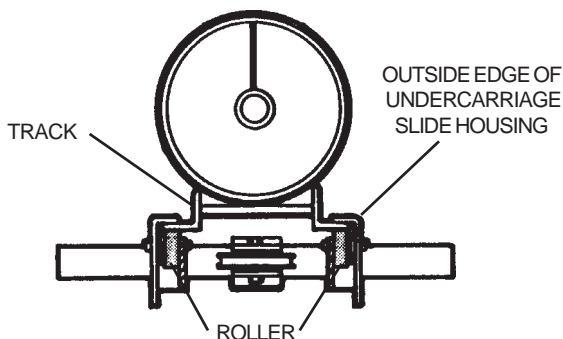

FIG. 33B
Step 5. Before the upper cable anchor/stop can be attached, the undercarriage slide must be installed on the track. See Figure 33B. To accomplish this, lift the auger assembly a few feet by lifting at a point near the center of the auger with a chain hoist or other safe, suitable means. **DO NOT** lift the entire weight of the auger from the extreme end. **DO NOT** use drive shaft to lift auger. Use a sling completely around auger housing assembly for lifting. Install the undercarriage slide onto the track from the discharge end. Be sure the slide is installed on the track so that it cannot be removed from the track after the cable anchor/stop has been attached.